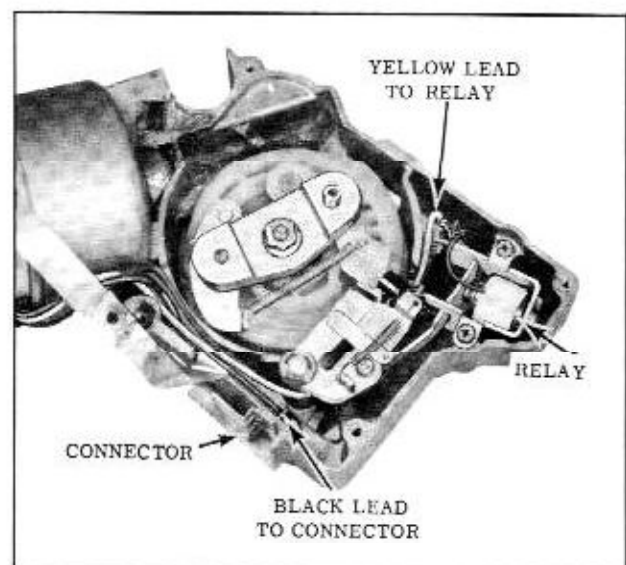

Fig. 13-114 Wiper Motor Leads
3. Remove two relay attaching screws, remove relay and unsolder yellow wire at relay connection. (Fig. 13-114)
4. Slide connector block from housing and unsolder black wire from connection. (Fig. 13-114)